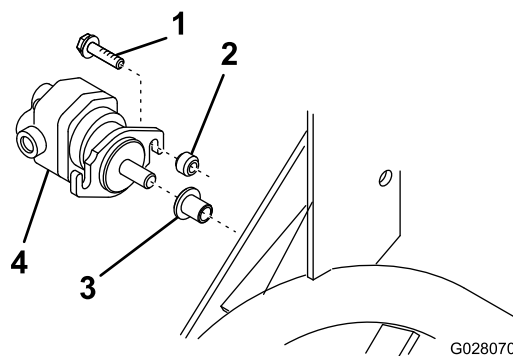

Figure 11
C. Using the reel motor flange as a template, position it as shown in Figure 11, drill an 8.75 mm (0.34 inch) diameter hole on the line drawn in step A.
- B. Insert the splined shaft of the reel motor into the storage tube on the frame (Figure 11).